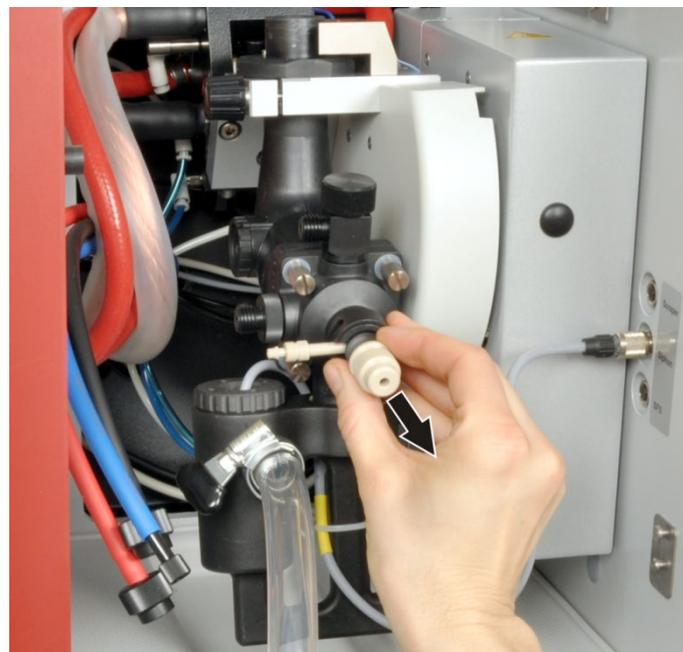

Fig. 56 Withdrawing the nebulizer from the mixing chamber
4. Withdraw the nebulizer from the mixing chamber head, holding the nebulizer in the groove (Fig. 56).